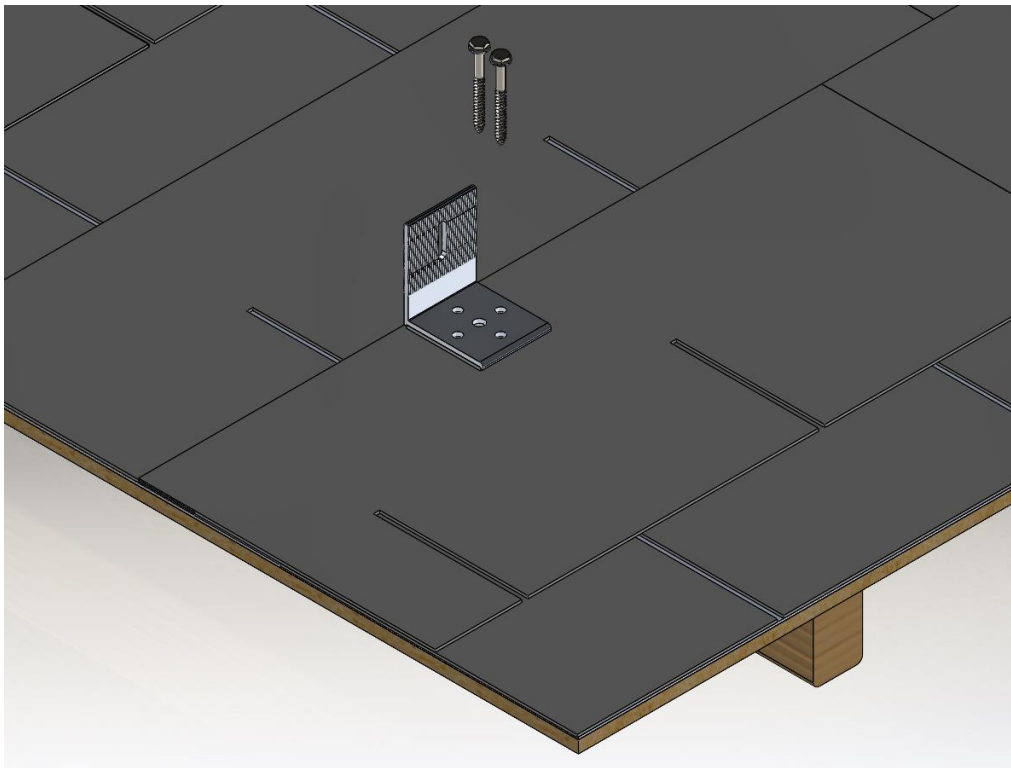

Figure 38: Mounting Universal L Mount using 2 two lag bolts
1. When using one or two Kinetic 4" self-drilling screws, install the self-drilling screw(s) into the rafter similar to Figure 38. No predrilling is required. The wood roof truss or joist should have at least a 1.5" chord width.
Hanger Bolt valley installation (Figure 38 Hanger Bolt Valley Installation):